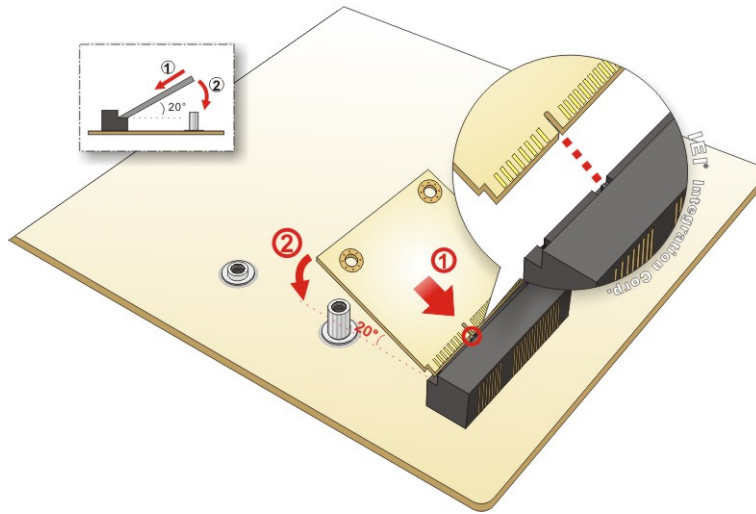

Figure 4-7: Inserting the Half-size mSATA Module into the Slot at an Angle
Step 4: Line up the notch on the card with the notch on the slot. Slide the mSATA module into the slot at an angle of about 20° (**Figure 4-7**).